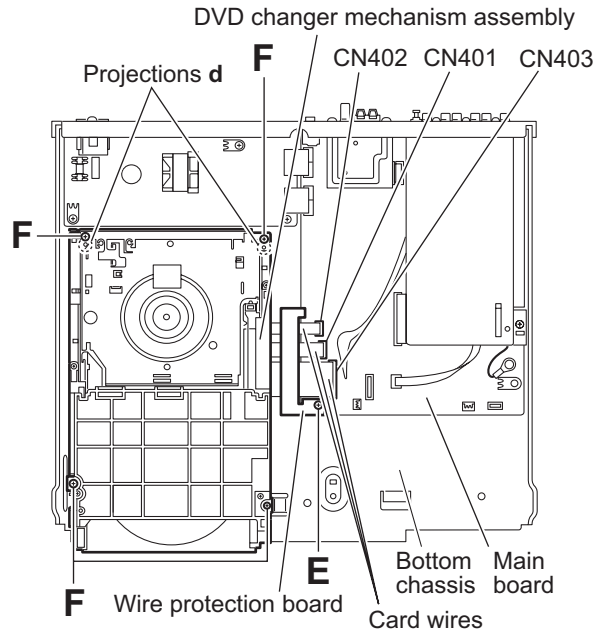

Fig.7
3.1.3 Removing the DVD changer mechanism assembly (See Fig. 7)